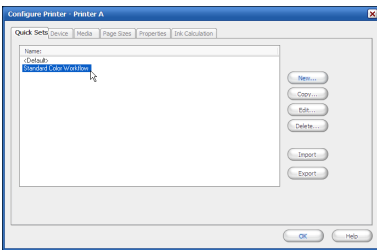

Figure 26—Configure Printer Dialog
2. Click **Configure Printer** on the toolbar. This opens the Configure Printer dialog (see Figure 26).